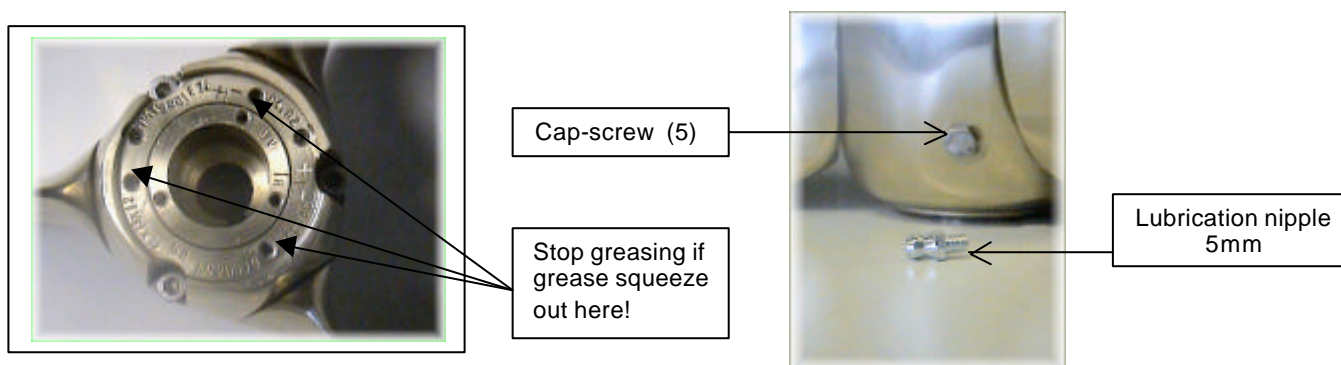

Fig.8
The VARIPROP needs to be greased a minimum of once a year. The VARIPROP body should always be completely filled with a high viscosity **grease** of a hydrophobic nature. Remove the cap screw (5) and screw in the lubricating nipple which is supplied with the tools. Further remove the zinc anode! With each pump of the grease gun rotate the propeller from forward stop to reverse stop to allow the grease to work through the propeller. Stop to pump when enough grease comes out of the anode drill holes on top of the prop (Fig.8).